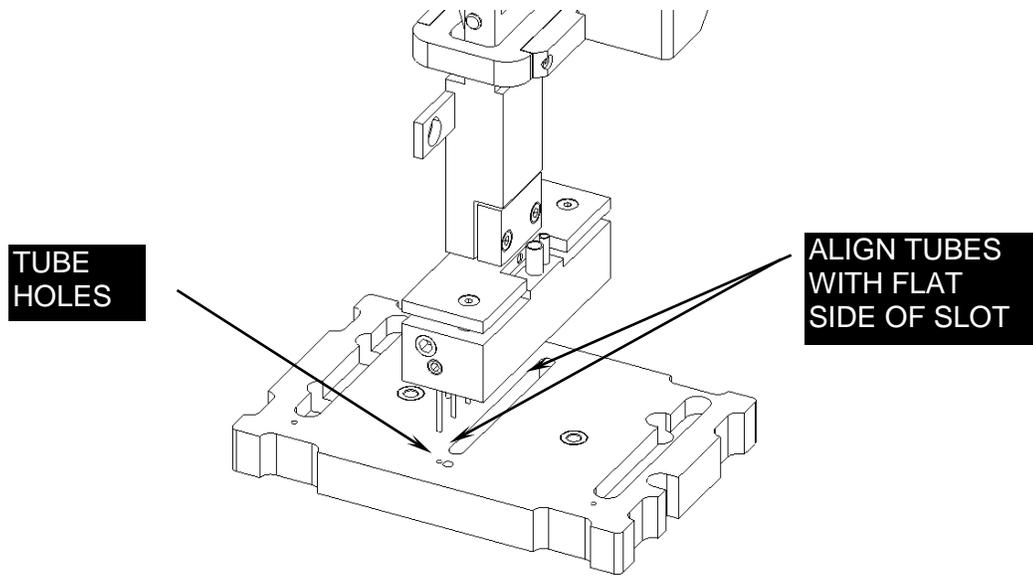

Figure 13-8: Positioning the Wash Head in the Alignment Plate
4. Carefully place the head into the alignment plate (DS2FIX001). The front two Wash Head Tubes fit into the two holes and the remaining tubes fit in to the slot (Figure 13-8).